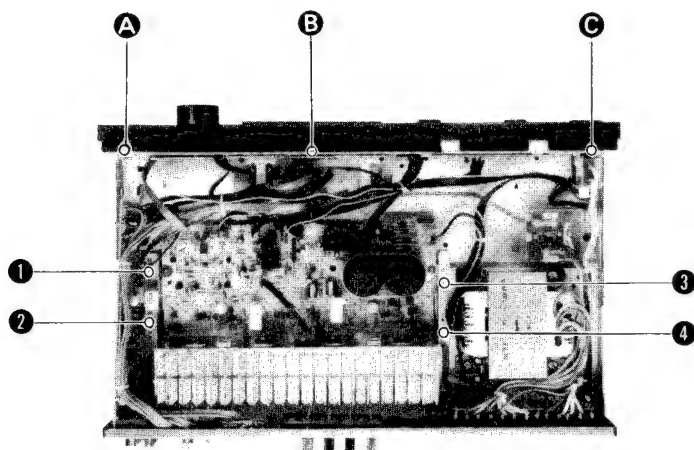

Fig. 2
2. Remove screws ① ~ ④ on the bracket of P.C. board. (Fig. 2)
1. Remove plastic rivets A ~ C on the upper part of front panel shown in Fig. 2.